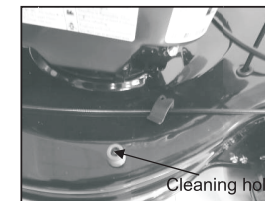

Fig.18
1. Using a water hose, insert the hose connector into the cleaning hole-connector on the deck; ensure they are firmly connected (Fig.18);